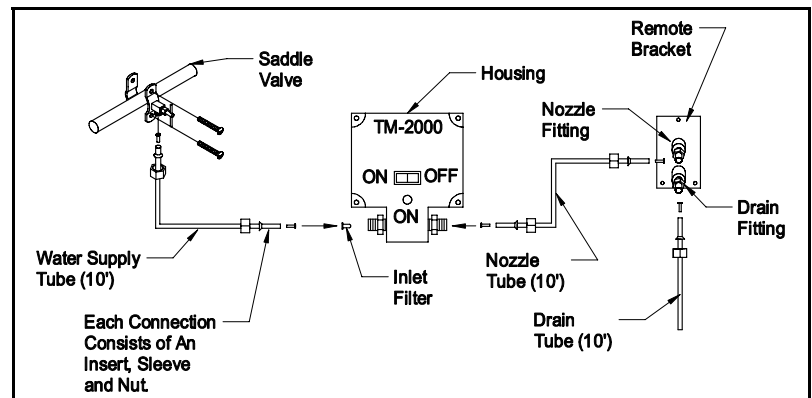

Figure 10
11. Carefully following the instructions printed on the Saddle Valve Assembly bag, attach the saddle valve to the water line. (See Figure 10)
12. Attach one 10' section of the supplied plastic tubing to the saddle valve and the inlet connection of the Housing Assembly, as shown in Figure 10, using the inserts, sleeves and nuts found in the saddle valve bag, and cutting to length as necessary.